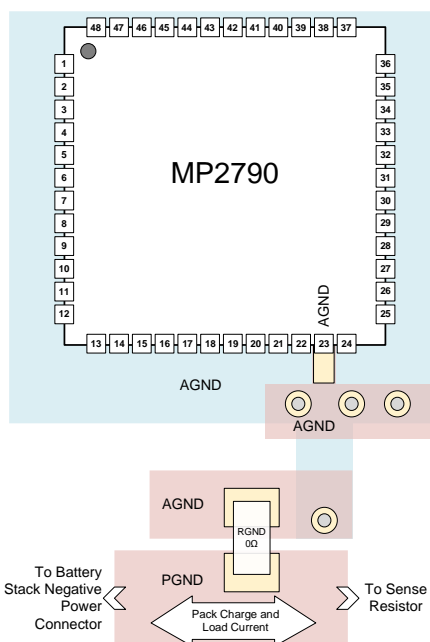
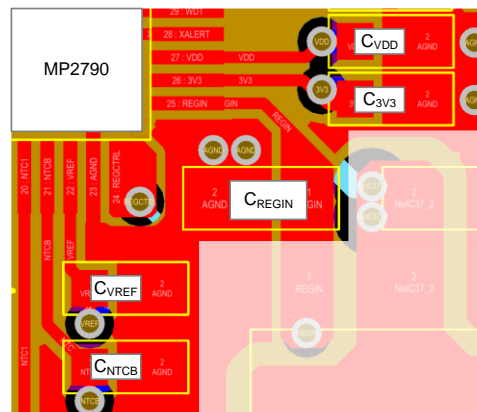
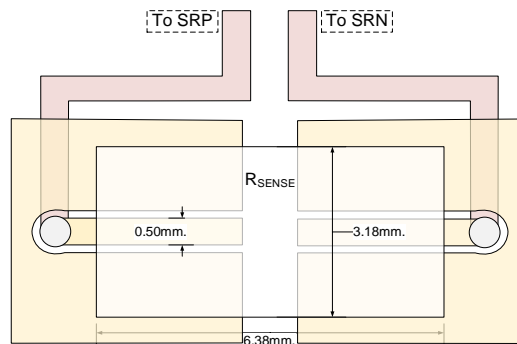

Figure 23: Recommended Layout for AGND
Figure 24: Recommended Layout for Decoupling Capacitors
Figure 25: 2512 Sense Resistor using 4-Wire Footprint
Proper PCB layout is critical to reduce noise, and to optimize the device's accuracy and reliability. For the best results, refer to Figure 23, Figure 24, and Figure 25, and follow the guidelines below:
1. Route the ground plane such that it reduces ground noise and prevents stray current (see Figure 23).
5. The REGIN, VDD, VREF, 3V3, and NTCB pins require external decoupling capacitors, which should be placed as close as possible to each pin. Minimize the trace inductance from these pins to AGND (see Figure 24).
6. Consider Kelvin connections at the sense resistor. A sense resistor with a dedicated sensing pad is ideal. A simple two-terminal sense resistor can be used in a 4-wire sensing configuration (see Figure 25).